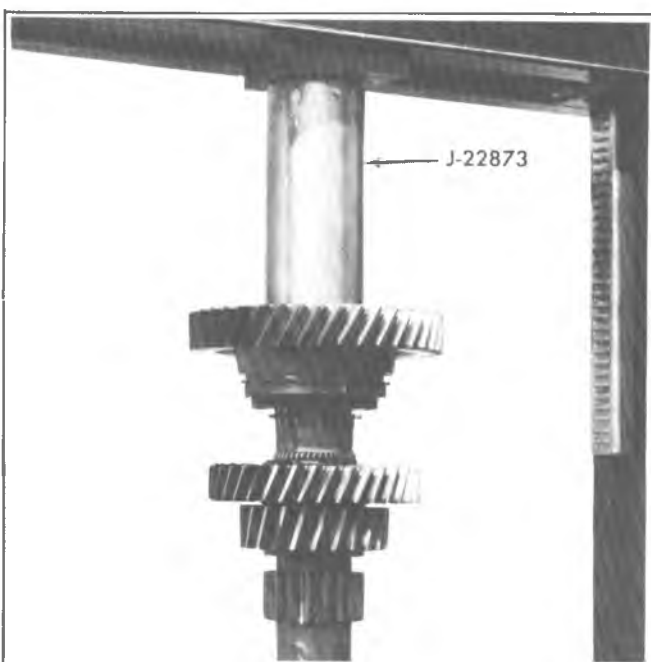

Fig. 7B-22L--Installing Clutch Countergear
3. Install new clutch countergear rear retaining ring using Tool J-22830, J-22873 and snap ring pliers as follows: Install Tool J-22830 on end of shaft and position snap ring on Tool (Fig. 7B-21L). Using Tool J-22873, push down on snap ring until it engages groove on shaft. Using snap ring pliers, carefully expand ring until it just slides onto splines, then push ring down shaft until it engages groove on shaft.